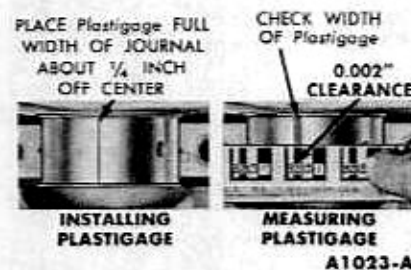

FIG. 23—Installing and Measuring Plastigage—Engine Removed
3. Place a piece of Plastigage on the crankshaft journal, the full width of the journal and about $\frac{1}{4}$ inch off center (Fig. 23).